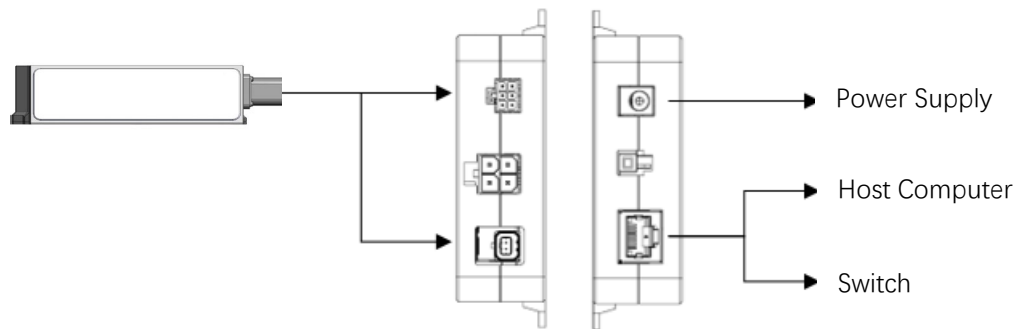

Figure 7 Schematic diagram of interface box connection
The connection method is shown in Figure 7.
c) After power on, under normal working conditions, the green indicator light of the interface box of the LiDAR will remain on, and the location details of the indicator light are shown in Figure 7.